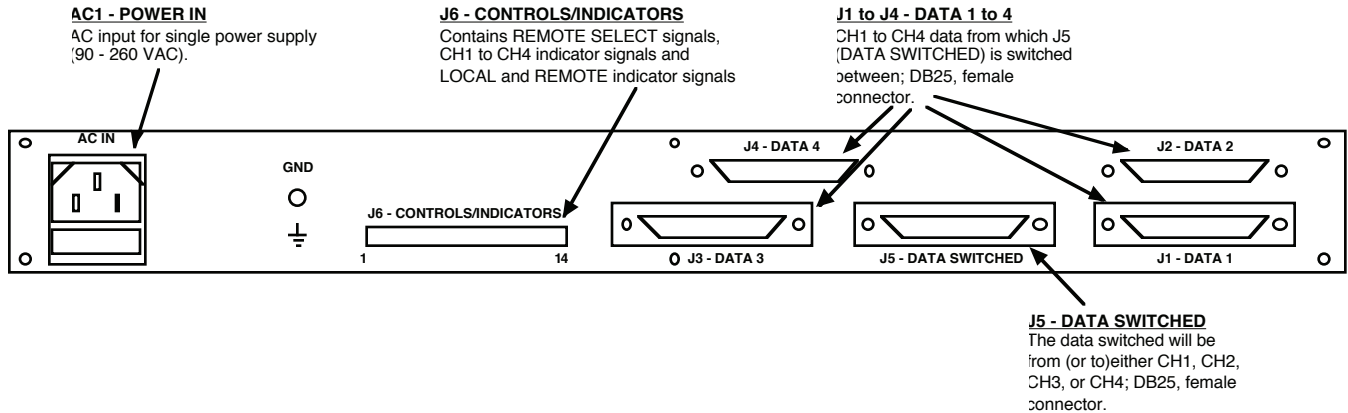
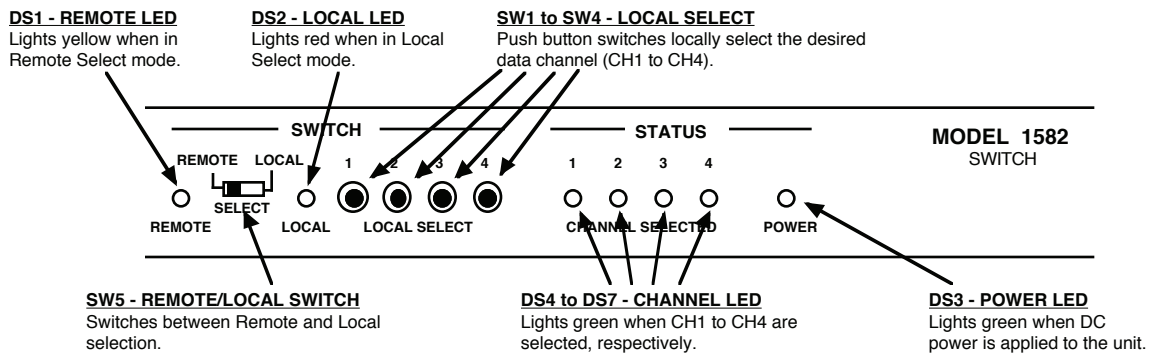

FIGURE 2.2 1582-45L Rear Panel Signals
FIGURE 2.4 1582-45L Front Panel Controls and Indicators
2.2 Rear Panel Signals - The input/output and control/indicator connectors located on the rear panel are shown in Figure 2.2. In order to select CH1 to CH4 remotely, switch SW5 on the front panel must be set to REMOTE operation. With SW5 set to REMOTE operation, the local push button switches on the front panel will be disabled.
2.3 Front Panel Controls and Indicators - Figure 2.4 shows the controls and indicators located on the front panel. When switch SW5 is set to REMOTE operation, the push button selection switches, SW1-SW4, on the front panel are disabled. When switch SW5 is set to LOCAL operation the push button switches, SW1-SW4, will be enabled and all remote control will be disabled.
- 2.) Connect data to the DB25 DATA connectors, J1 - J5 (Figure 2.2).
- 3.) Connect to signals on the CONTROLS/INDICATORS connector, J6, as desired (Figure 2.2).
- 4.) Connect 100-240 \pm 10% VAC, 47 - 63 Hz to AC IN on the back panel (Figure 2.2).
- 5.) Be sure the POWER LED, DS3, is on (Figure 2.4).
- 6.) Set SW5 for REMOTE or LOCAL operation (Figure 2.4).
- 7.) Choose the desired data path either remotely (J6, Figure 2.2) or locally using the push buttons (SW1 - SW4, Figure 2.4) and check for proper data flow and that the appropriate CHANNEL LED (DS4 - DS7, Figure 2.4) is lit.